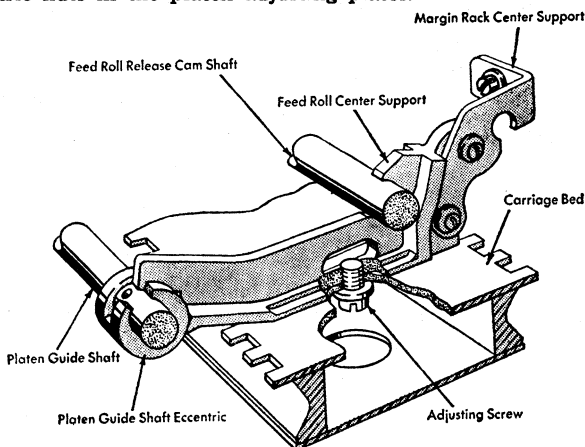
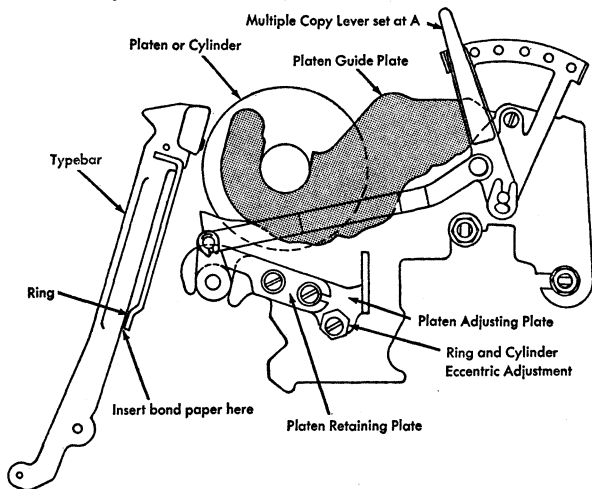

Figure 19. Feed Roll Center Support Adjustment
Figure 20. Ring and Cylinder Adjustment
4. RING AND CYLINDER. Adjust by first loosening the feed roll center support screw through a hole in the bottom of the carriage bed (Figure 19). Loosen the rear screw in each platen retaining plate (Figure 20). Rotate the eccentric nuts in the platen adjusting plates.
To test for ring and cylinder, insert a sheet of bond paper into the typewriter and move the multiple copy control lever to A. Place a piece of bond paper, about one-half inch wide and four inches long, between the type bar and ring (Figure 20). The paper should be gripped tightly between the type bar and the ring when a type bar is held up to the platen with the thumb against the type bar at the ring. Place the paper between the ribbon and the paper on the platen, and by holding the type bar as before, check that there is a slight drag as the test paper is withdrawn. Repeat this test at both ends of the platen, using the same type bar each time. To be sure the platen
5. FEED ROLL CENTER SUPPORT. Reposition this to touch the eccentric collar on the platen guide shaft after any change in ring and cylinder adjustment. On carriages longer than 12 inches, loosen the margin rack center supports to reposition the feed roll center supports (Figure 19).